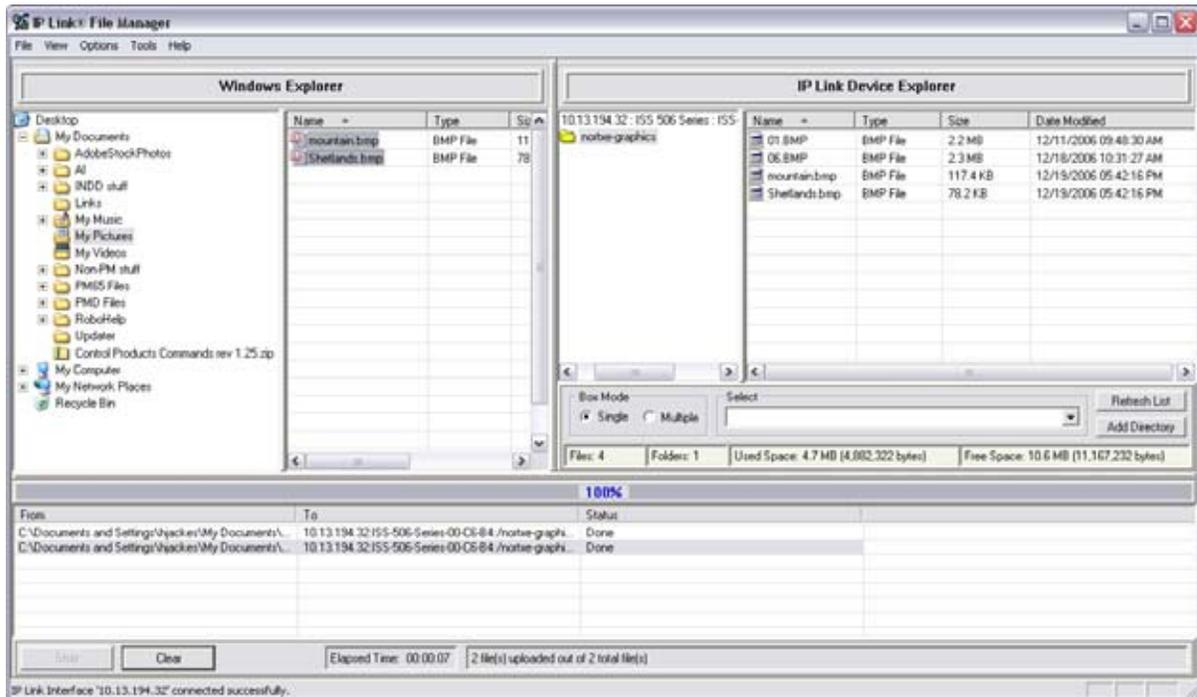

Figure 5-24 — IP Link File Manager program window
4. The IP Link File Manager program window appears (figure 5-24). The window contains two major sections.